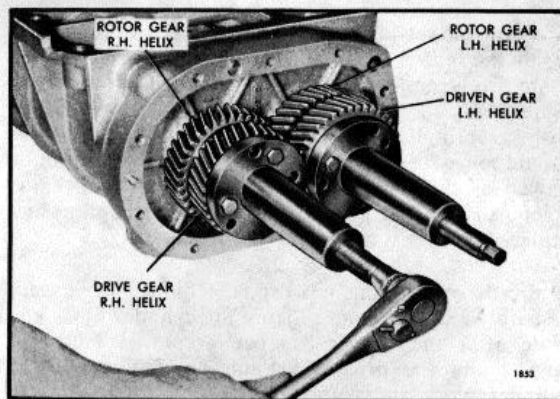

Fig. 4 Removing Blower Rotor Gears from Blower Rotor Shafts with Tool Set J 6270-F
- c. With the shop towels between the blower rotors and housing to prevent them from turning, turn the puller screws uniformly clockwise and pull the gears from the rotor shafts (Fig. 4).
6. Remove the bolts and lock washers securing the rotor shaft bearing retainers (6) to both the front and rear end plates. Remove the retainers.
- a. Remove the two fillister head screws (26) securing the rear end plate (24) to the blower housing, and loosen the two fillister head screws securing the front end plate (23) to the housing approximately three turns.